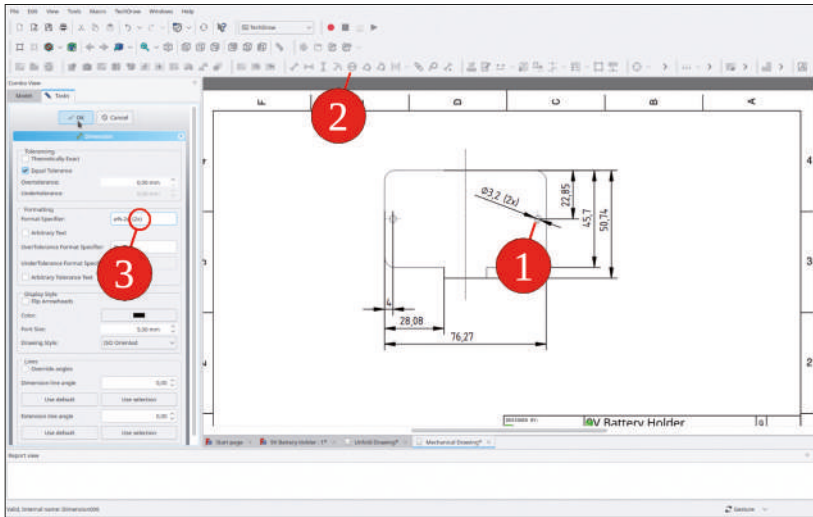

Figure 5-40
11. In the drawing, mark one of the two circles and click the 'Insert Diameter Dimension' tool button. The circle is present twice. Not always, this is as evident as here. Machinists usually like a hint to the total number of similar features. Therefore, in the tree view, double-click the diameter dimension. A task window opens. In the field for 'Format Specifier', add '(2x)' behind the cryptic format string. That addition will show on the drawing as typed (Figure 5-40). Close the task with the OK button.